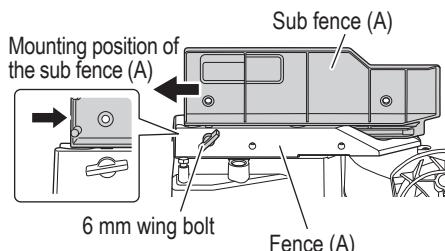

Fig. 11
When right bevel angle cutting, loosen the 6 mm wing bolt, then slide the sub fence (A) outward and remove it as shown in Fig. 11.
In the case of direct angle cutting and left bevel angle cutting, slide inward to the position where the sub fence (A) hits, and secure it with 6 mm wing bolt. (as shown in Fig. 11)